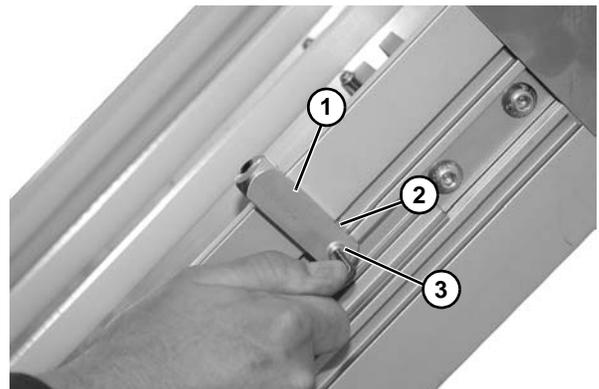

**Figure 29**
1. Lay out retaining clip (**Figure 29, item 1**) locations. The end clips should be no greater than 12" from end of the conveyor. Hole should line up with notch (**Figure 29, item 2**) in side rail.
2. Hold guide (**Figure 29, item 3**) and retaining clip (**Figure 29, item 1**) to conveyor side rail. Install self-drilling screws (**Figure 29, item 4**) following the "Proper Methods of Attaching Guiding to Side Rails (SmartSlot Frames Only)" on page 12 procedure.